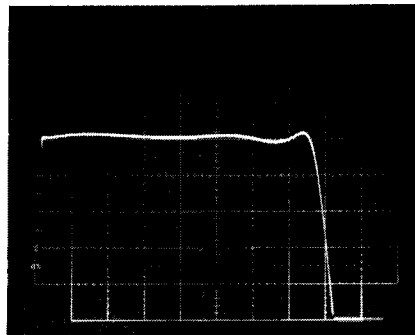

Fig. E-2: OVERALL DEEMPHASIZED RESPONSE
e) You are now sweeping the entire OPTIMOD-TV system, including the complex filters in Cards #8 and #9. Adjust R618(652) to achieve maximally flat response, similar to Fig. E-2. The response should be ± 0.75 dB or better, 50-15,000Hz.